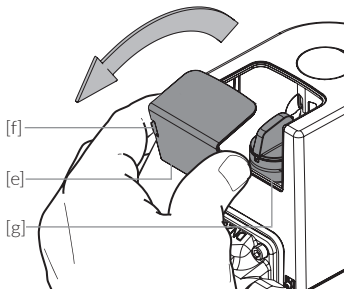

Fig. 9.1
- / Fig. 9.1: Release the flap [e] by pressing lightly on the two snap hooks [f] on the outer edge. Remove the flap.